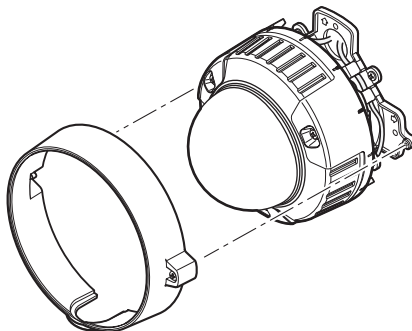

Figure 16. Installing the Base Cover
11. Mount the base cover (supplied) on the mounting base (refer to Figure 16).